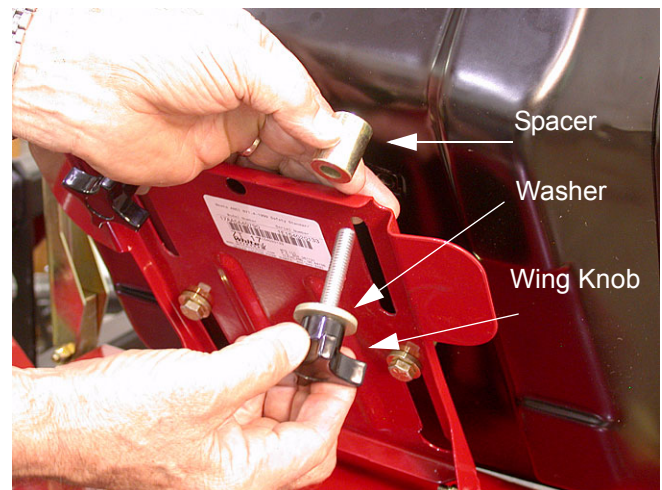

Figure 12.3
- 12.3. Remove both wing knobs from under seat. Keep track of washers and spacers. See Figure 12.3.